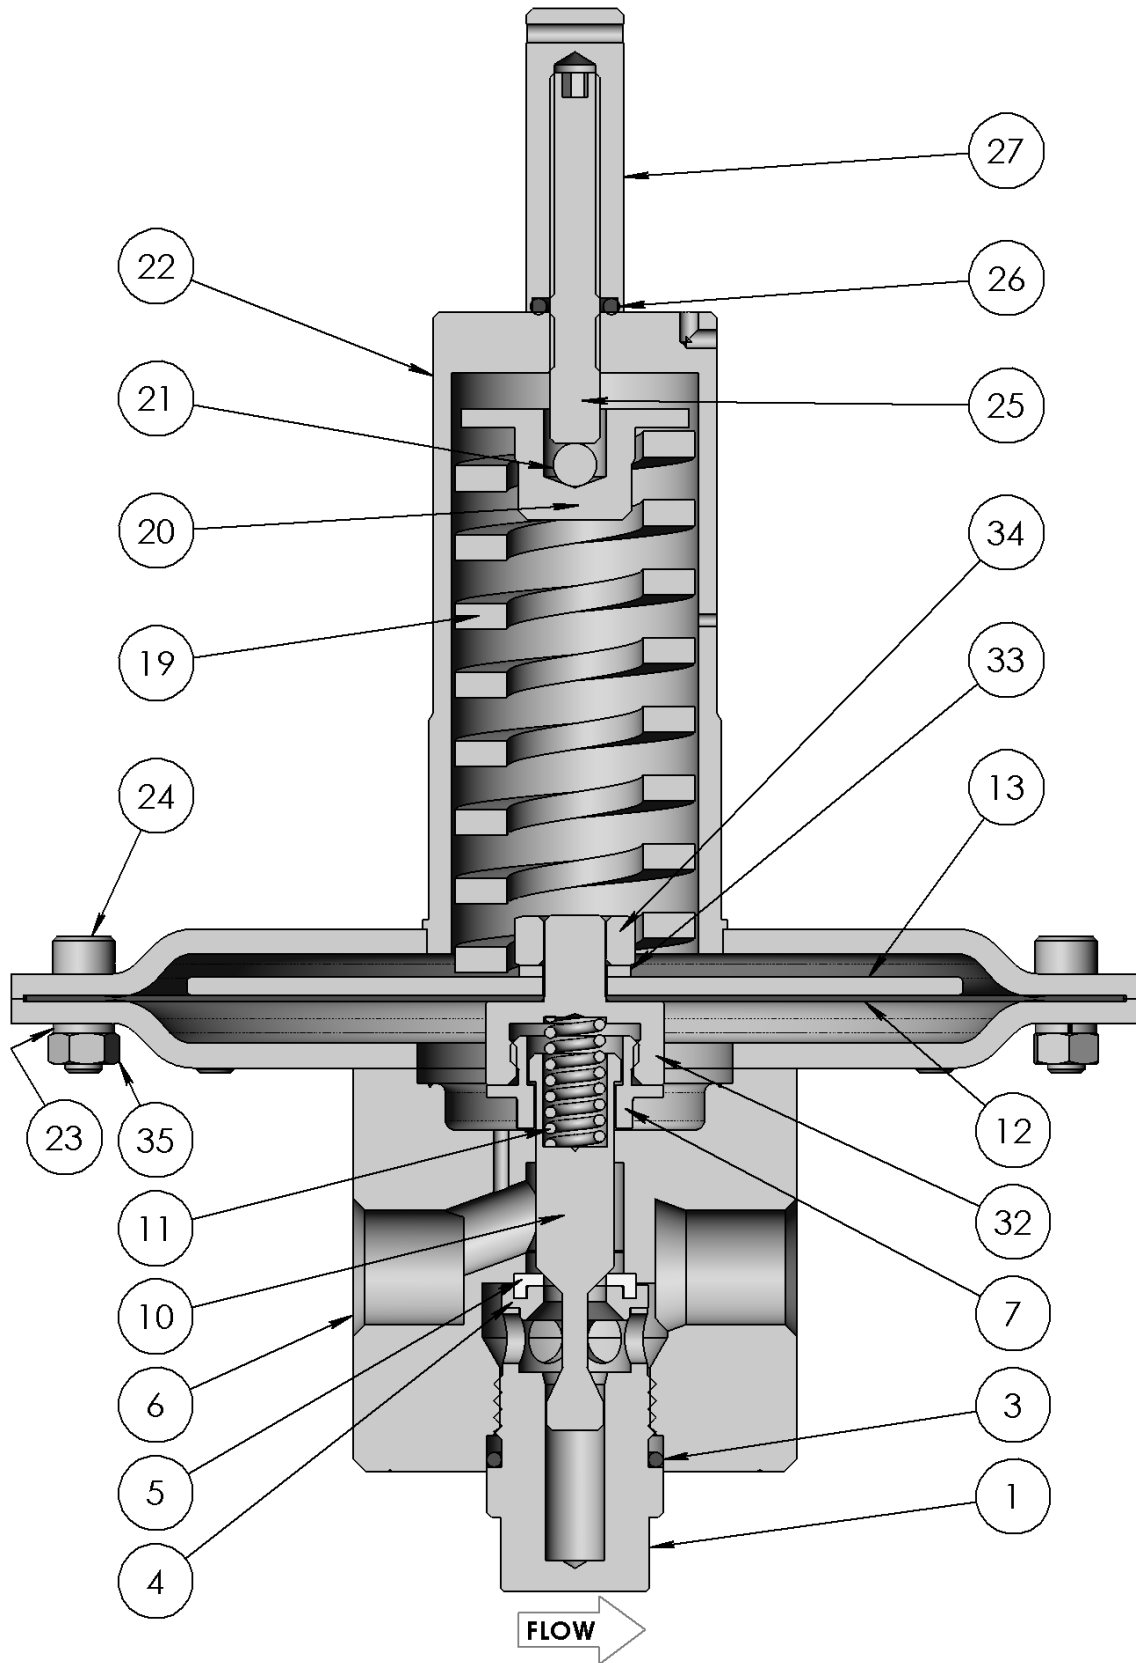

Fig 6
1. Follow steps 1 and 2 of the BS(H) series diaphragm sensing reassembly procedure.
2. Insert the poppet (10) and overtravel spring (11) through the diaphragm screw (7). Lightly lubricate the diaphragm screw threads (7) with Krytox GPL 207 then fit this into the LPBS diaphragm screw (32). Torque to 13 lbf·ft (18 N·m).
3. Place the diaphragm (12) onto the diaphragm plate (13). Insert the LPBS diaphragm screw (32) through the plate per Fig 6. Lightly lubricate the diaphragm screw (32) thread with Krytox GPL 207.
4. Secure the assembly with the diaphragm nut (34) and washer (33). Torque to 7 lbf·ft (10 N·m).
5. Follow steps 4 through 8 of the BS(H) series diaphragm sensing reassembly procedure, with the inclusion of the cap nuts (35) at step 7.